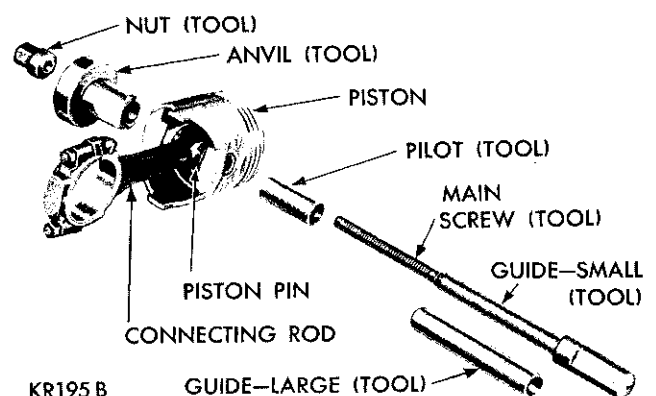
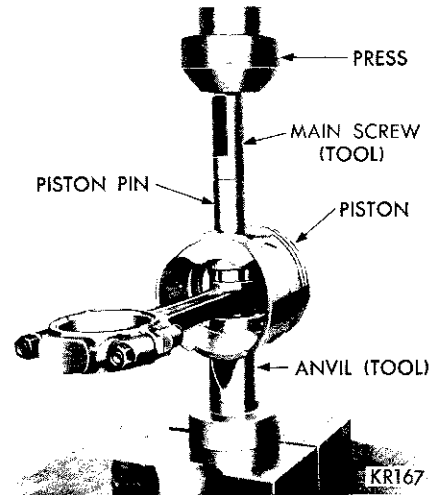

Fig. 38—Tool Arrangement for Removing Piston Pin Using Tool C-3684
Fig. 41—Installing Piston Pin
(1) Arrange Tool C-3684 parts for the removal of piston pin, as shown in Figure 38.
(2) Install pilot on the main screw.
(3) Install the main screw through the piston pin.
(4) Install anvil over the threaded end of the main screw with small end of anvil against the piston boss.
(8) Install the nut on puller screw to hold the assembly together. Place the assembly on a press, as shown in Figure 41.
(9) Press in the piston pin until the piston pin "bottoms" on the pilot. This will position the pin in the connecting rod.
(10) Remove the tool and arrange tool parts and piston assembly in the same manner, as shown in Figure 38.